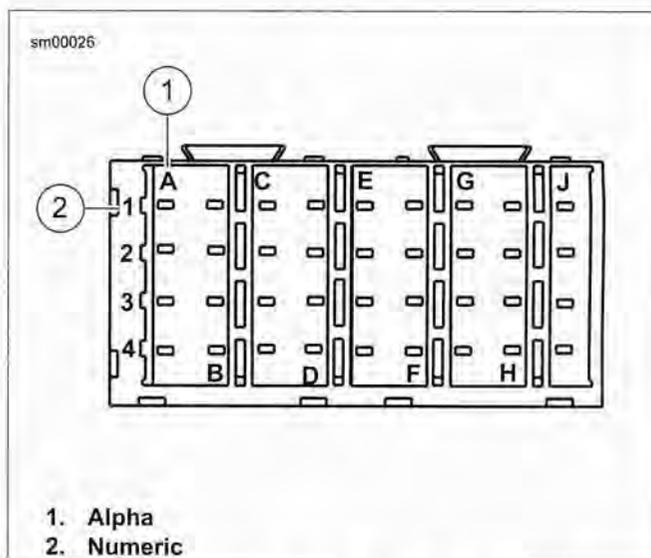

Figure A-9. Fuse Block: Coordinates (typical)
- See Figure A-9. The main fuse block terminal cavity is identified as alpha (1) and numeric (2) coordinates. Refer to the main harness wiring diagram for fuse block terminal cavity coordinates.